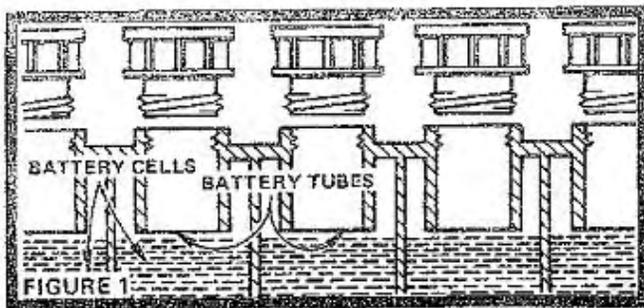

FIGURE 1
- b. Fill Battery with electrolyte to bottoms of tubes in cells (Fig. 1). NOTE: DO NOT OVERFILL. (OVERFILLING WILL RESULT IN DAMAGE TO TRACTOR).